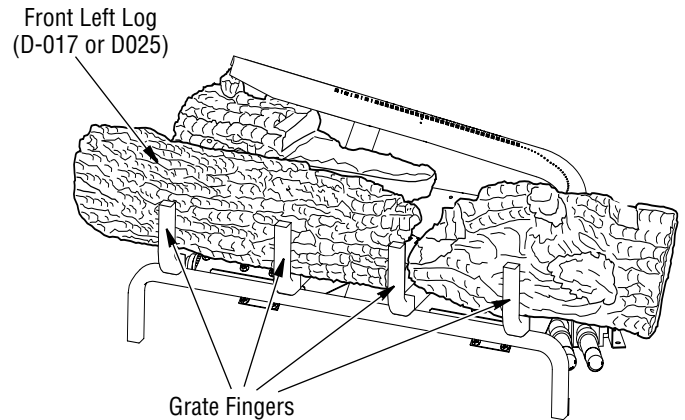

Figure 20 - Installing Front Left Log
3. Find the front left log (LMF30GTA/B or LMF30MOA/B models: D-017, LMF36GTA/B or LMF36MOA/B models: D-025). See **Figures 20, 20A, and 20B**. The log has a rectangular stand off on the bottom that fits against the lip on the black metal base as shown in **Figure 20A, Page 13**. The bottom of this log has a slot that fits over the second bar on the grate as shown in **Figure 20B, Page 14**. Place the log on the base assembly as shown in figures.